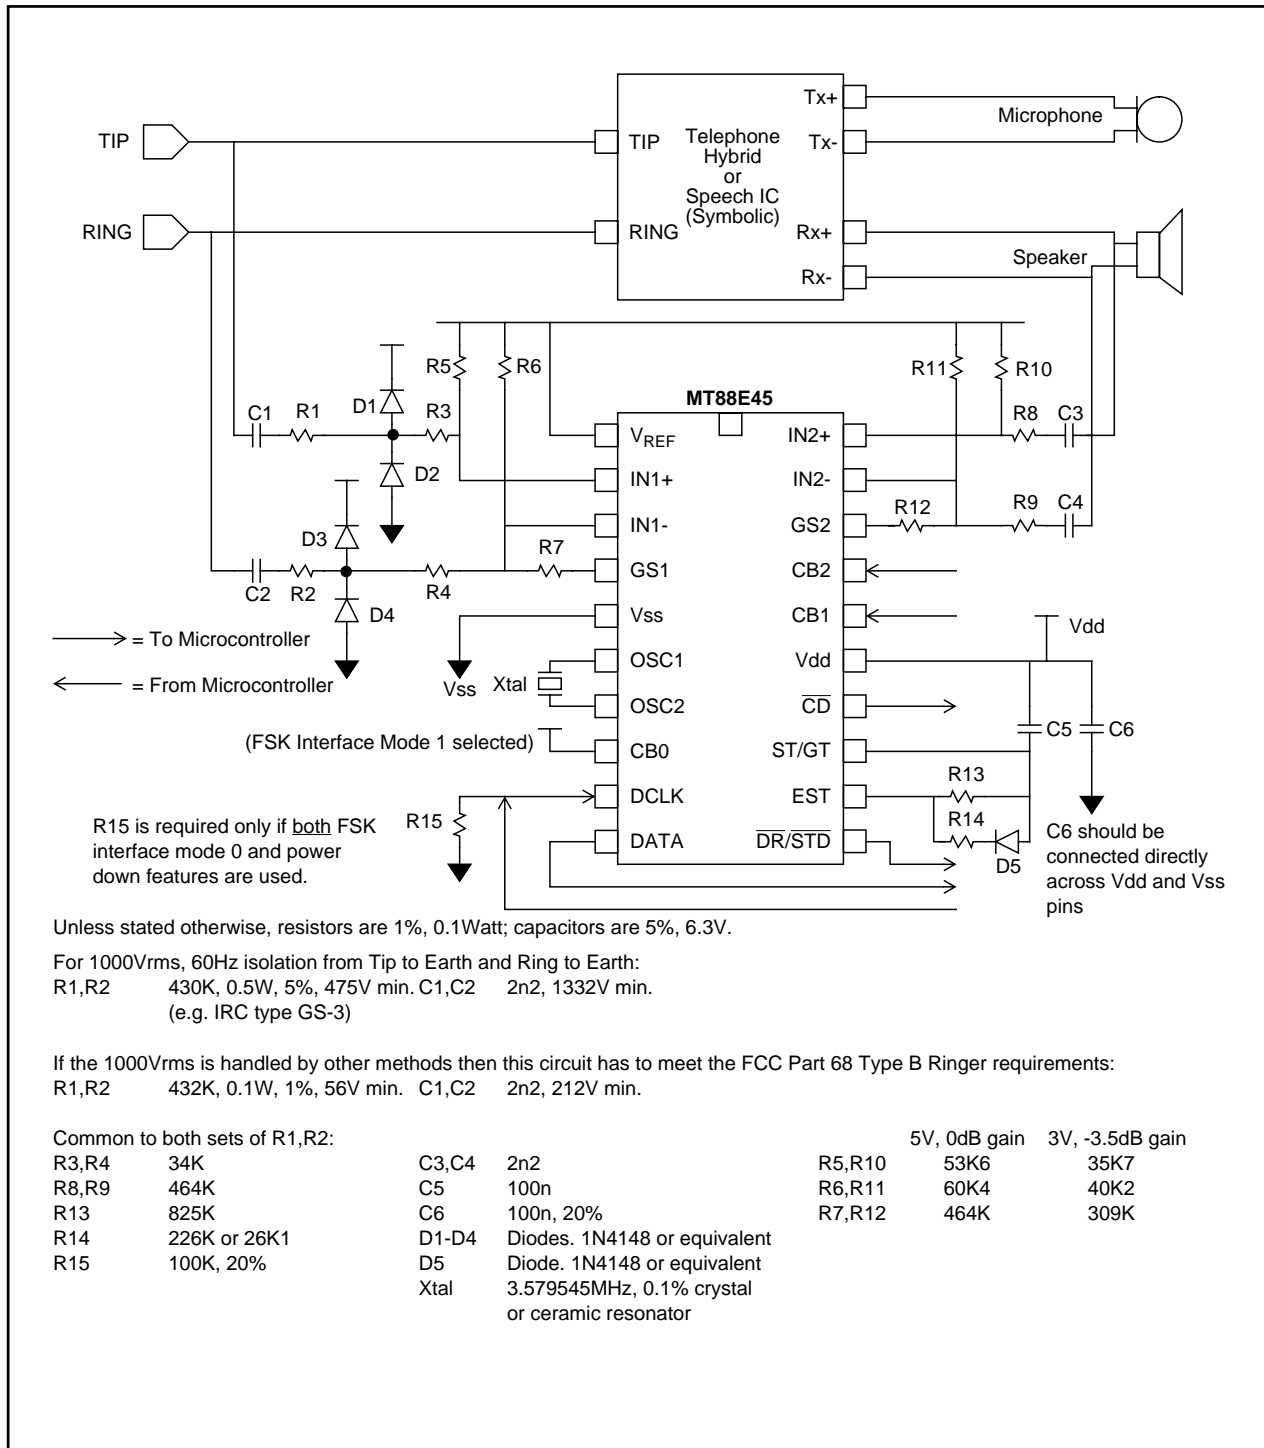

Figure 7 - Application Circuit: Bellcore MEI Compatible Type 2 Telephone
In power down mode both input op-amps, V_{REF} and the oscillator are non functional. DCLK becomes an input because to select the power down state CB0 is 1 which will select FSK interface mode 1. If the application uses FSK interface mode 0 and the MT88E45 needs to be powered down then a pull down resistor should be added at the DCLK pin to define its state during power down (R15 in Figure 7). When the MT88E45 is powered down DATA, $\overline{DR/STD}$, \overline{CD} are high; EST and ST/GT are low.
- For the GS1 op-amp, start with the 0dB gain setting resistor values of $R_{5_{0dB}}$, $R_{6_{0dB}}$ and $R_{7_{0dB}}$. In Figure 7 these values are 53K7, 60K4 and 464K respectively. Keep C1,C2,R1,R2,R3,R4 as in Figure 7 to maintain the highpass corner frequency constant for all gain settings.